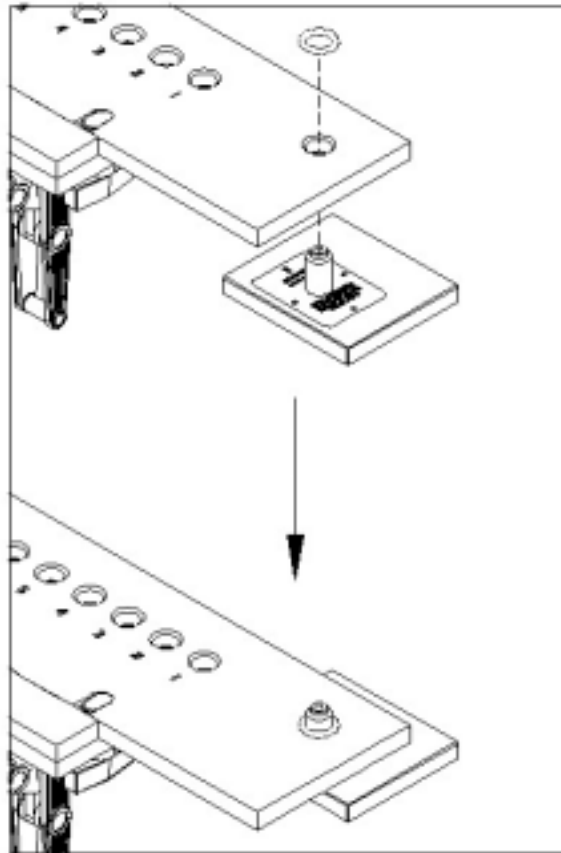

Figure 8
3. Attach the stop-block to the hole-boring template using the O-ring to hold it in place as shown in Figure 8. Be sure to position the stop-block with the desired starting hole dimension facing hole number 1 of the hole-boring template.